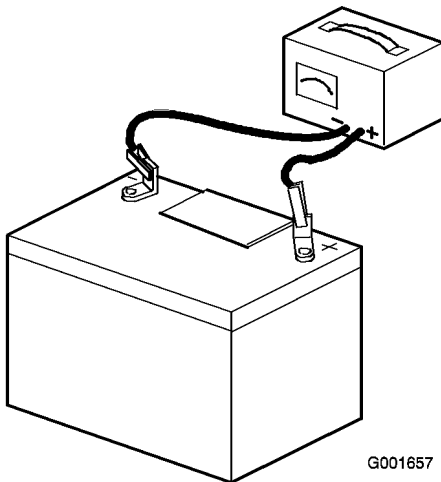

Figure 39
2. When the battery is fully charged, unplug the charger from the electrical outlet, then disconnect the charger leads from the battery posts (Figure 39).